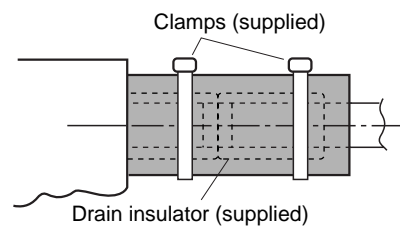

Fig. 3-89
- (2) After connecting the drain pipe securely, wrap the accessory packing and drain pipe insulator around the pipe, then secure it with the supplied clamps. (Fig. 3-89)